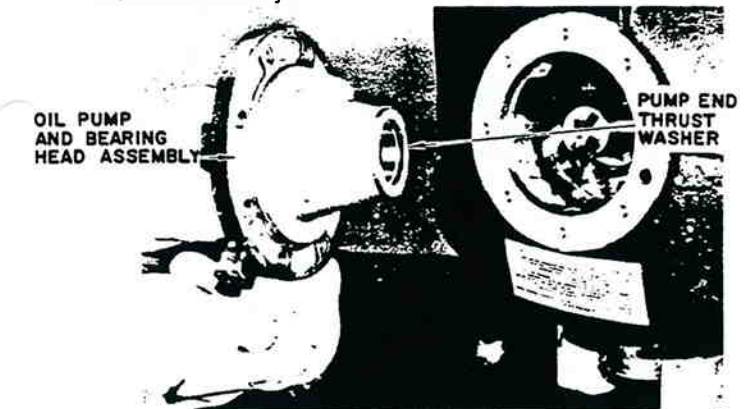

Figure 16-32: Removing Oil Pump Assembly
14. Remove eight capscrews and remove oil pump bearing head assembly, gasket and thrust washer (figure 16-32). Disassembly and cleaning of the pump and bearing head assembly will be accomplished during inspection and before reassembly.